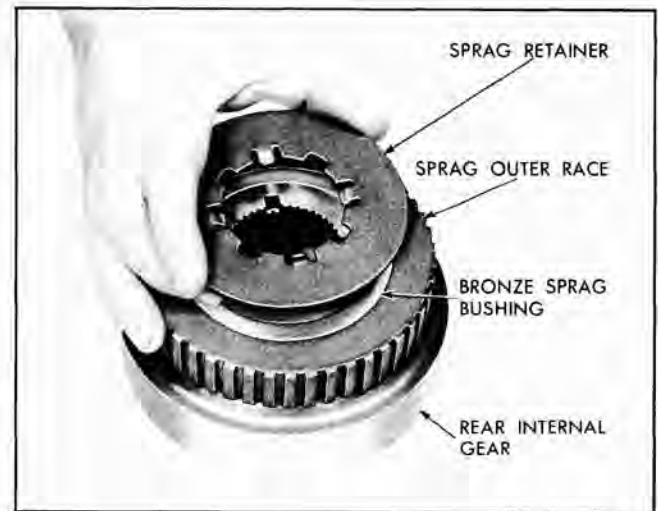

Fig. 89 Removing Sprag Retainer
1. Remove sprag retainer (Fig. 89).
2. Remove sprag outer race from sprag assembly and rear internal gear (Fig. 89).